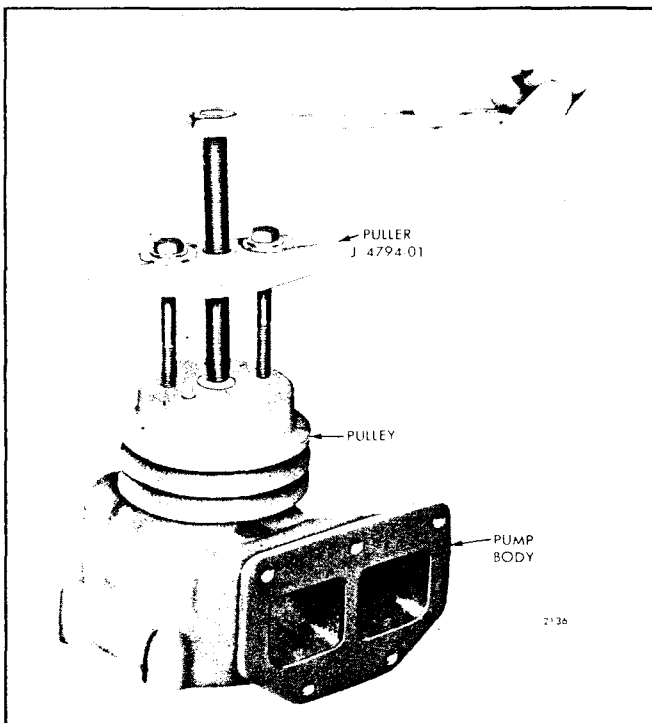

Fig. 3 - Removing Pulley
1. Note the position of the pulley on the shaft so that the pulley can be reinstalled in the same position when the pump is reassembled. Remove the water pump pulley as shown in Fig. 3.